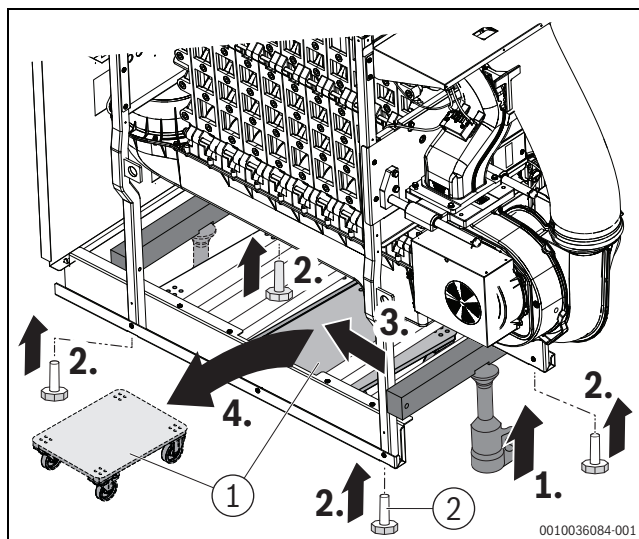

Fig. 16 Remove the transport rollers, mount the adjustable feet (example for illustration purposes)
- ▶ Once the boiler is located at the final installation location, screw in the 4 boiler feet to the traverses on the side (→Fig. 16).
(→Fig. 16)